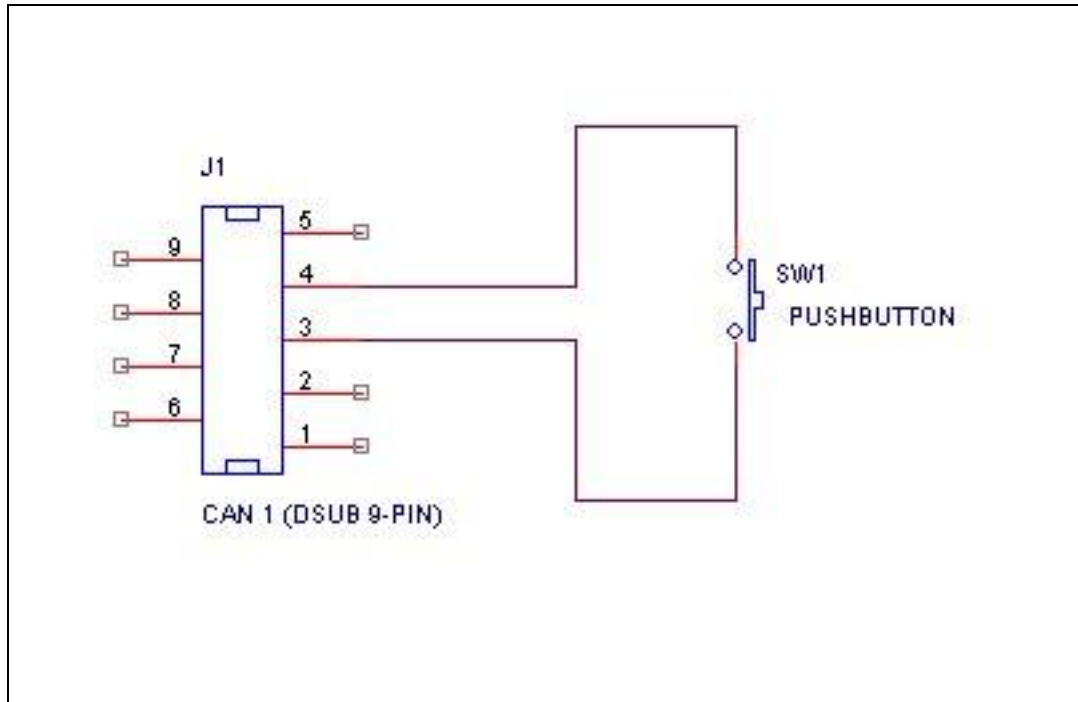

Figure 7: How to connect an external trigger switch.
- Connect a switch from pin 4 on CAN channel 1 to ground, which can be found on pin 3 on the same connector. See Figure 7.